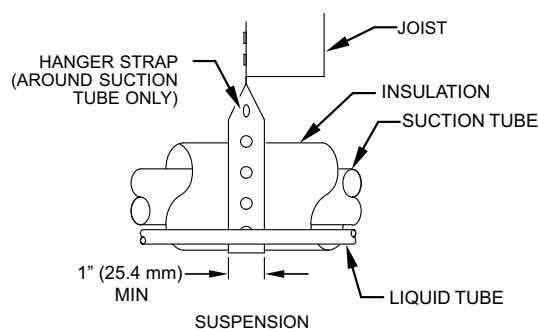

Fig. 1 – Piping Installation
5. When passing refrigerant tubes through the wall, seal opening with RTV or other pliable silicon-based caulk. (See Fig. 1.)
7. Do not suspend refrigerant tubing from joists and studs with a rigid wire or strap which comes in direct contact with tubing (see Fig. 1).
9. When necessary, use hanger straps which are 1 in. (25.4 mm) wide and conform to shape of tubing insulation. (See Fig. 1.)